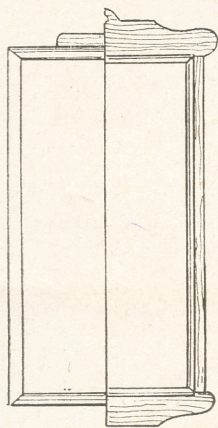
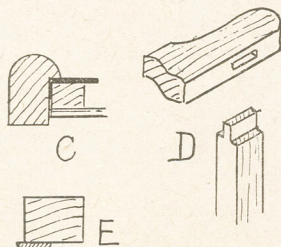

Fig. 1—Two frame suggestions
Fig. 5—Rebate and joint details
Fig. 1 shows two examples
As stated at the commencement of this article, two examples of simple but suitable framing are given in Fig. 1. The left-hand side one is a frame of half-round moulding, of the usual picture frame style. The rebate must be deep enough to receive frame, glass and backing, as well, as in Fig. 5 (C), say,  $\frac{3}{4}$  in. deep, and can be in black or gold, both, perhaps, equally suitable.